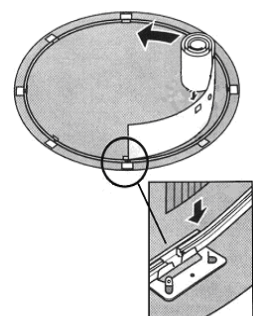

fig. 16
b) Start to unroll the wall by placing it into the bottom blue curved guide (PCA) fig. 16. The top of the wall should be placed on the motherboard T1, as centred as possible. This way when we close the circle and put the screws, they will be hidden in the column.